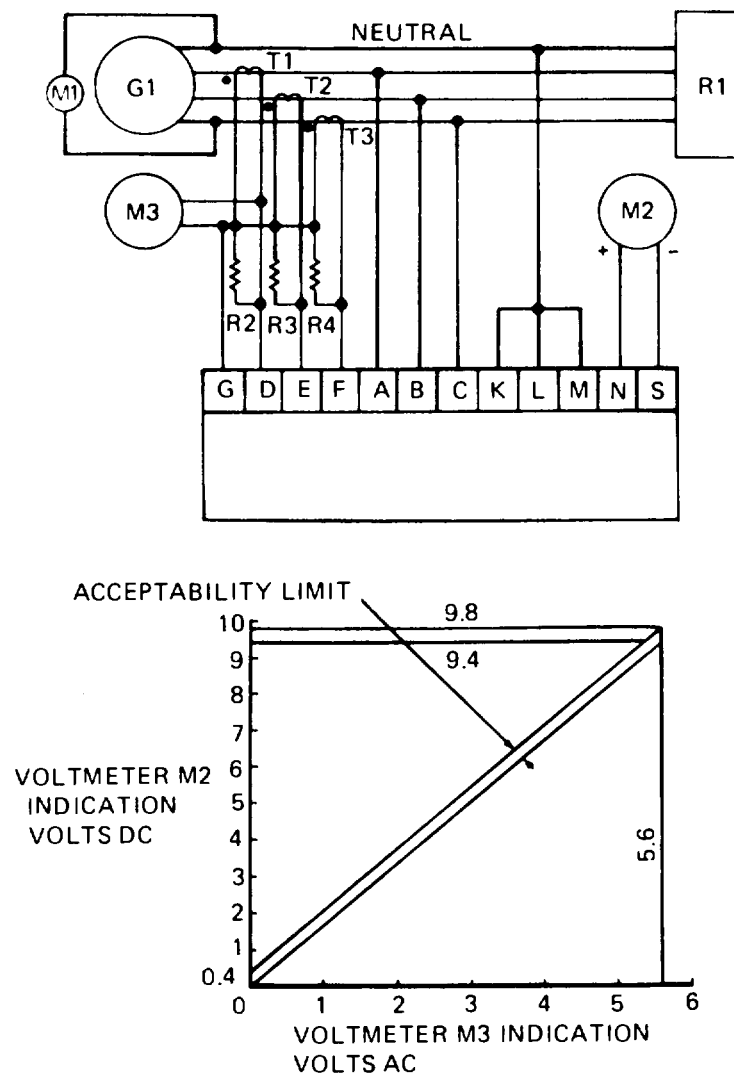

Figure 3-67. Load Measuring Unit Test Circuit and Test Data Relationship
- (2) Install load measuring unit in the test circuit shown in figure 3-67.
- (3) Remove load measuring unit cover.
- (4) Adjust load bank R1 so that it will apply no load to power source G1.
- (5) Activate power source and adjust to obtain a reading of 208 Vac on voltmeter M1.
- (6) Adjust load measuring unit load resistor (17, figure 3-64) to obtain a reading of 0.0 to 0.4 Vdc on voltmeter M2 (figure 3-67).
- (7) Place load bank on the line and check reading of voltmeters M2 and M3. Readings shall be 9.6 ± 0.2 Vdc and 5.4 Vac respectively.
- (8) Slowly adjust load bank from zero to full load while observing voltmeter M2 and M3. Indication of voltmeter M2 shall vary from 0.0 to 9.6 ± 0.2 Vdc as indication of voltmeter M3 varies from 0.2 ± 0.2 to 5.6 Vac (figure 3-67).
- (9) If necessary, adjust load measuring unit load resistor (17, figure 3-64) to obtain the relationship shown in figure 3-67.